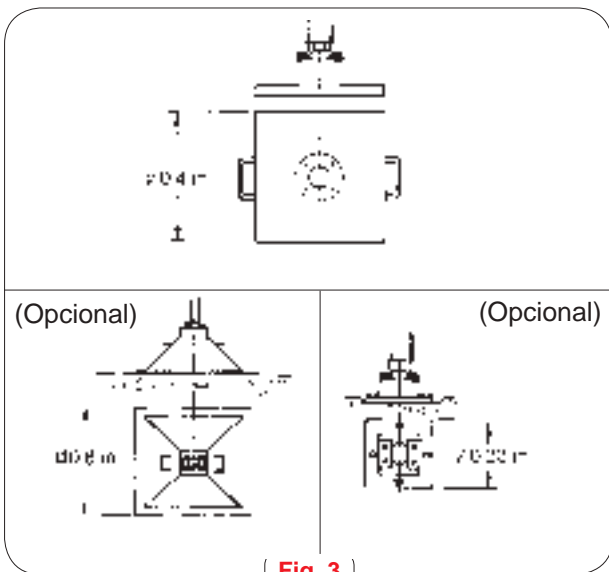

Fig. 3
- 4 Fit stabilizer bases (E) or support bases and fix them in place. (Fig. 3).
- 5 Place base onto support cones or plates and level with screw jacks (F), using only machined surfaces for level checking.